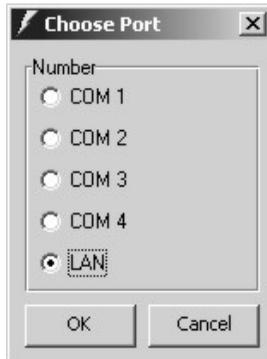

Figure 2: Choose Port Window
2. Run the Kramer Configuration Manager software (see section 5.1) and choose the LAN port (see Figure 2).